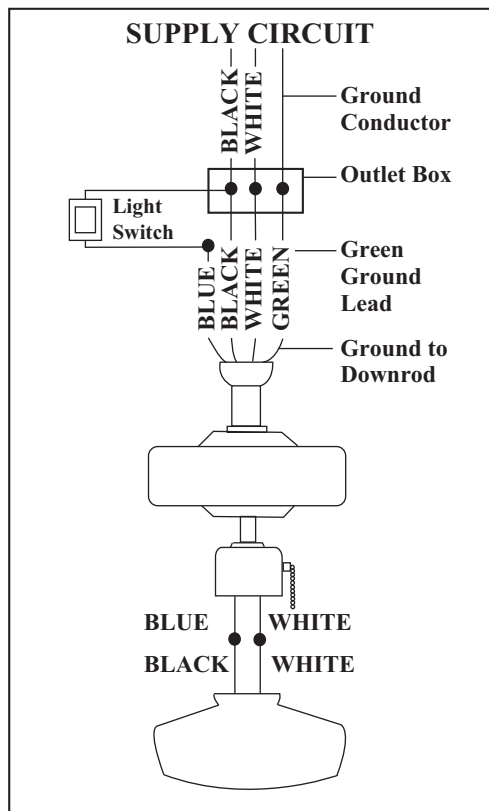

Figure 10
6. Figures 10 and 11 illustrate the wiring connections for optional wall control (available at your Hampton Bay Retailer, the wire color out of wall control may vary, see wall control's installation manual for correct wire connections.)